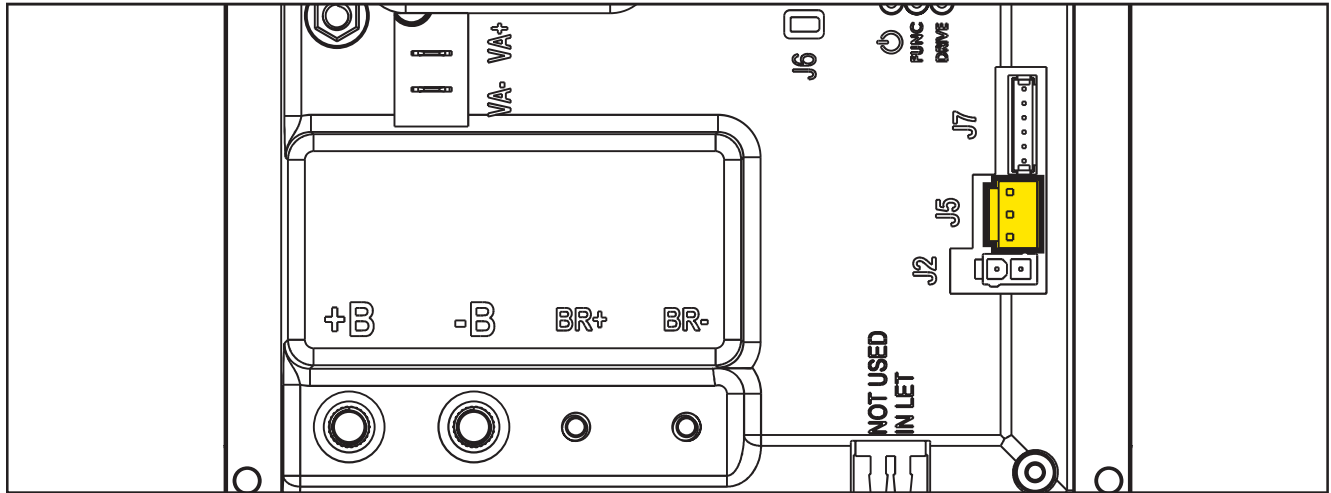

Figure 26:
**(Figure 26) J5: JST VHR-3N vertical 3-way**